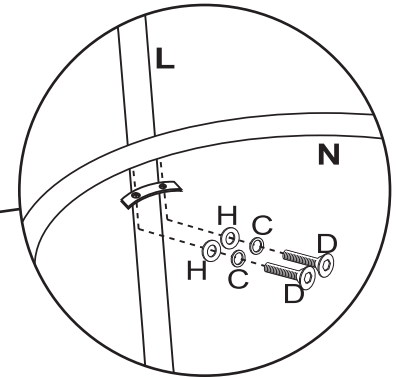

FIGURE 3
STEP 4 ~ Attach Bottom Ring (N) to both Leg Panels (L) using 2 Short Allen Bolts (D), 2 Spring Washers (C) & 2 Camber Washers (H) per each leg. Tighten all bolts from steps 2 & 3. See Figure 3.